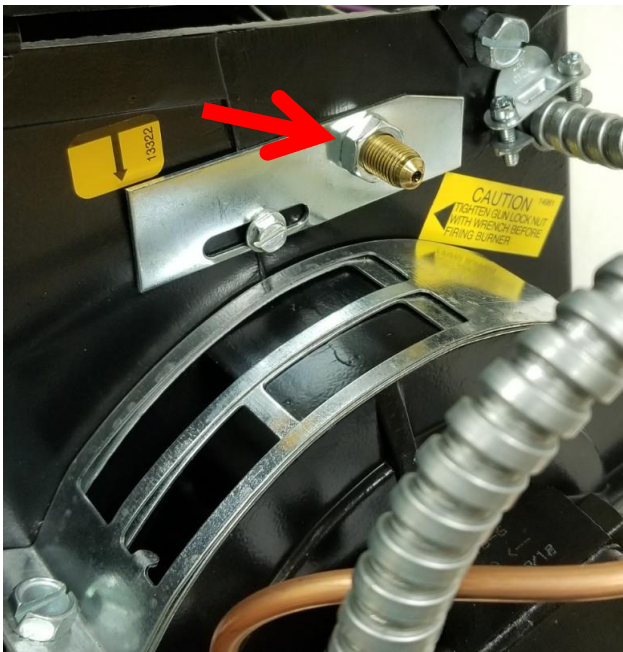

Figure 10 EH/EHASR Oil Gun Lock Nut Removal
4. Using a 9/16 inch wrench loosen and remove the oil gun assembly locknut (Figure 10).